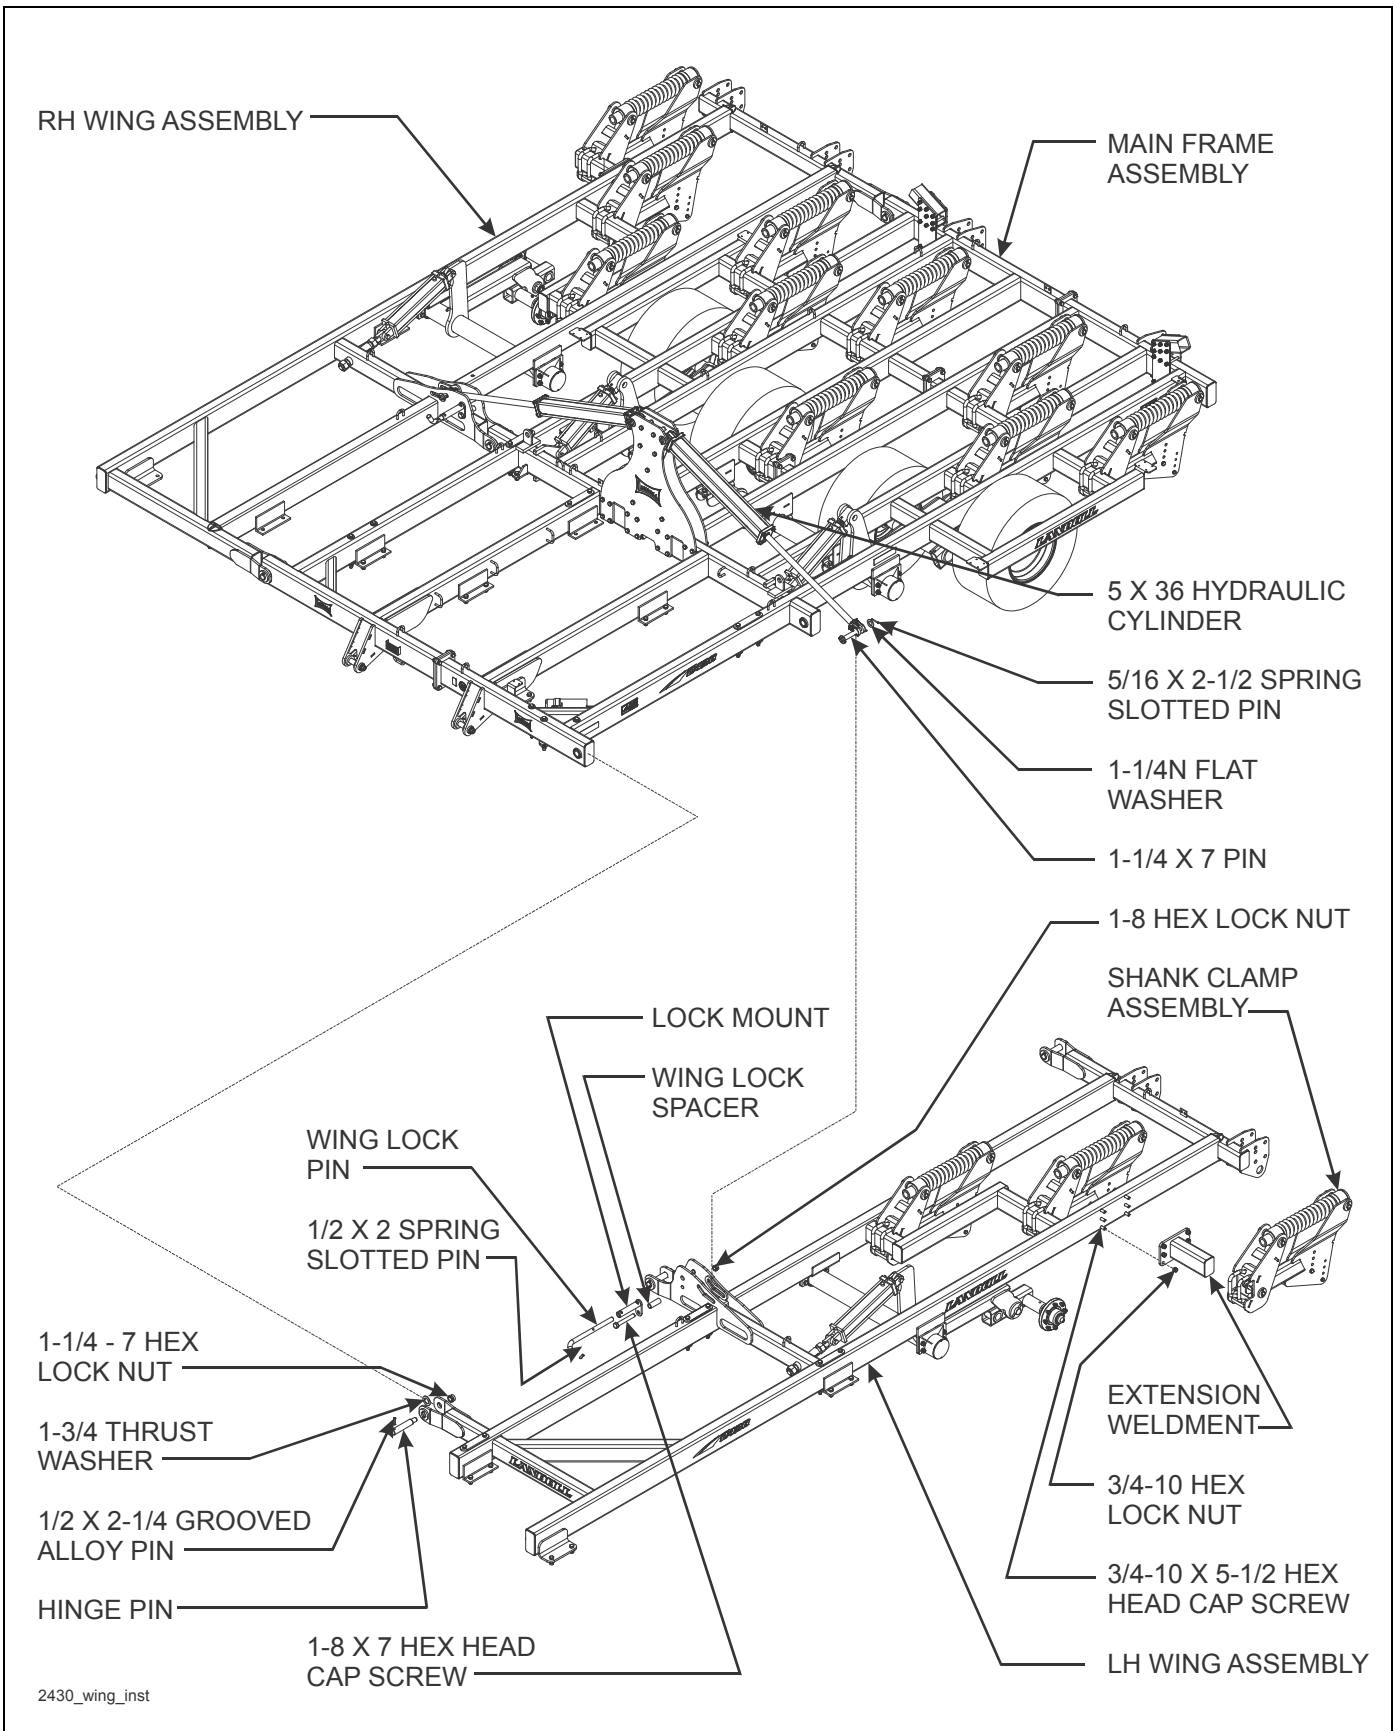

Figure 3-4: Wing and Extension Installation (2430-11-24 & 2430-13-24)
1. Assemble RH and LH wing assemblies to the main frame assembly using hinge pin, 1-3/4 thrust washer, 1/2 x 2-1/4 grooved alloy pin, and 1-1/4 - 7 hex lock nut (See Figure 3-4.)